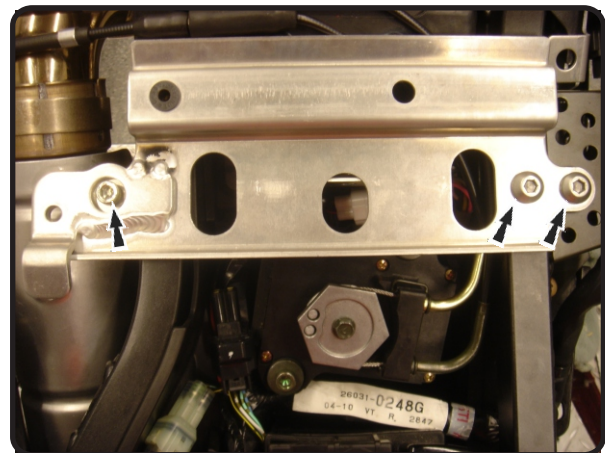

Fig. 9
- 9 Remove aluminum crosspiece from subframe (see Fig. 9).